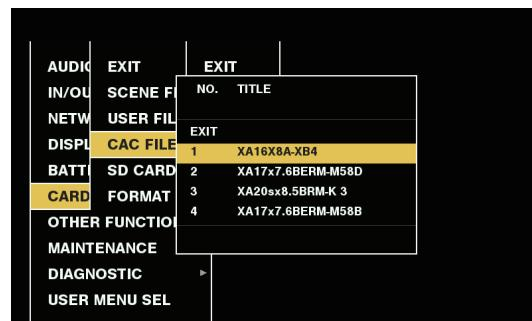

Fig. 2
**3** Select the file number to load, and press the jog dial button (or <SET> button). (Fig. 2)